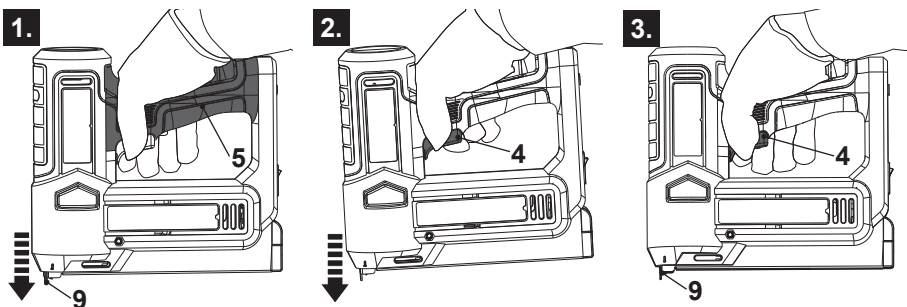

Fig. 10
1. Load the magazine (8) with a suitable staple strip (18).
2. Switch the product on and the power indicator (1) will turn green.
4. Hold the product firmly on the handle grip (5) with one hand. Always keep your hand away from the shot duct (9a).
5. Press the safety yoke (9) onto the material/workpiece that you want to staple (Fig. 10, step 1).
6. Maintain the contact pressure and briefly press the main trigger (4) (Fig. 10, step 2).
7. Once the staple from the shot duct (9a) has been completely driven in, release the main trigger (4) and lift the safety yoke (9) from the workpiece (Fig. 10, step 3). Never fire again at the same spot.